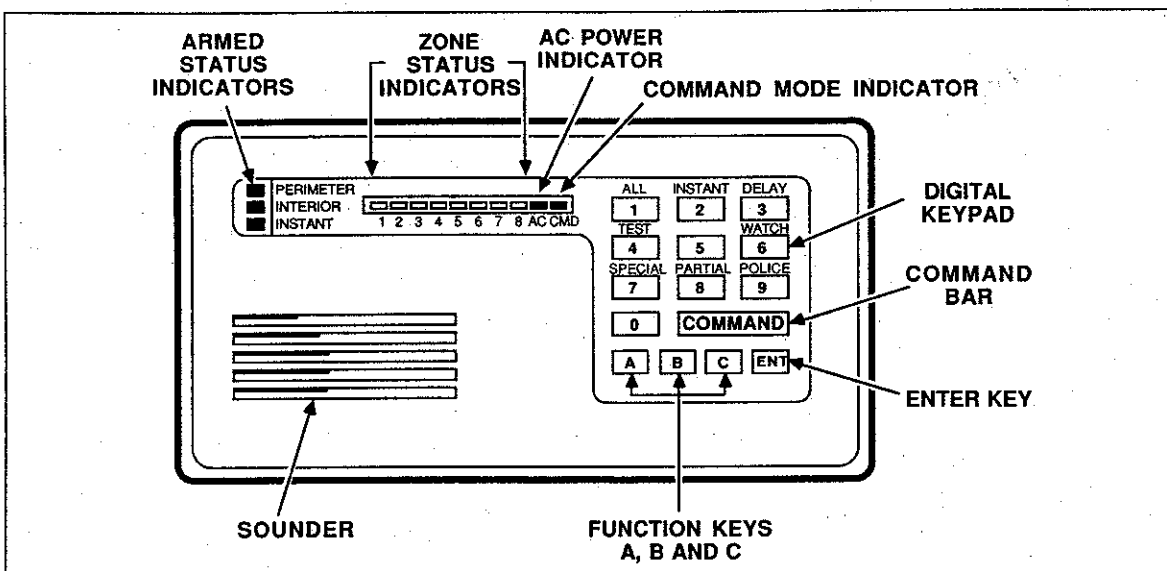
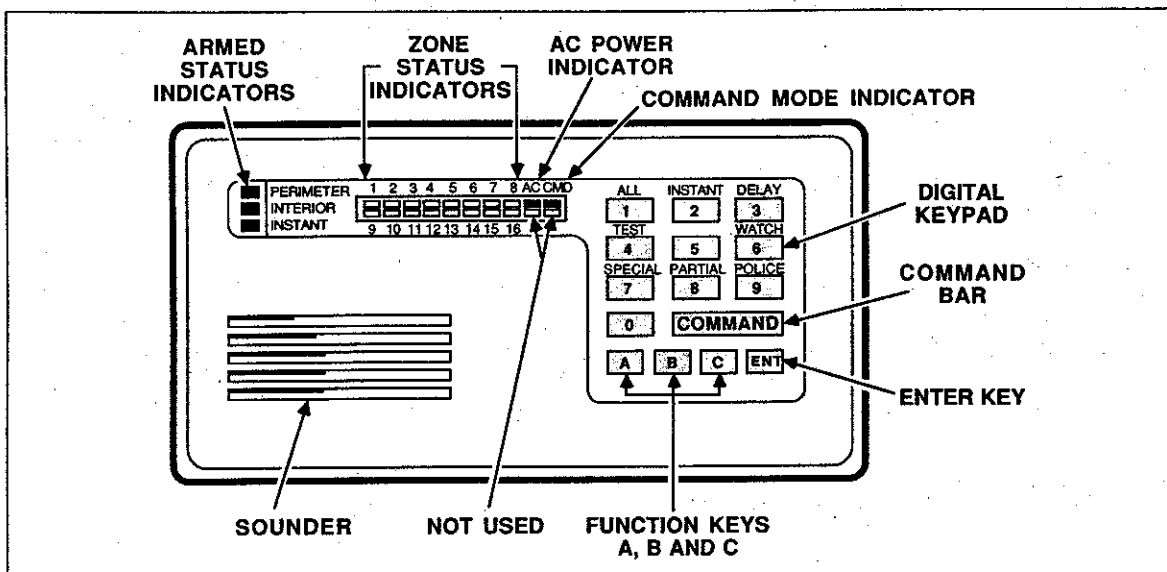

Figure 11: D620/D630 COMMAND CENTERS
Figure 12: D626 COMMAND CENTER
- 15.4 The Display Panel** The display panel for the D620, D626, and D630 Command Centers annunciate four different types of status: armed, zone, AC power, and command mode (see Figures 11 and 12).
**Zone Status Indicators:** The D620 and D630 contain eight *numbered* indicator lights, which are used to annunciate the condition of the account protective zones (see Figure 11). The D626 contains 16 numbered zone indicator lights (see Figure 12).